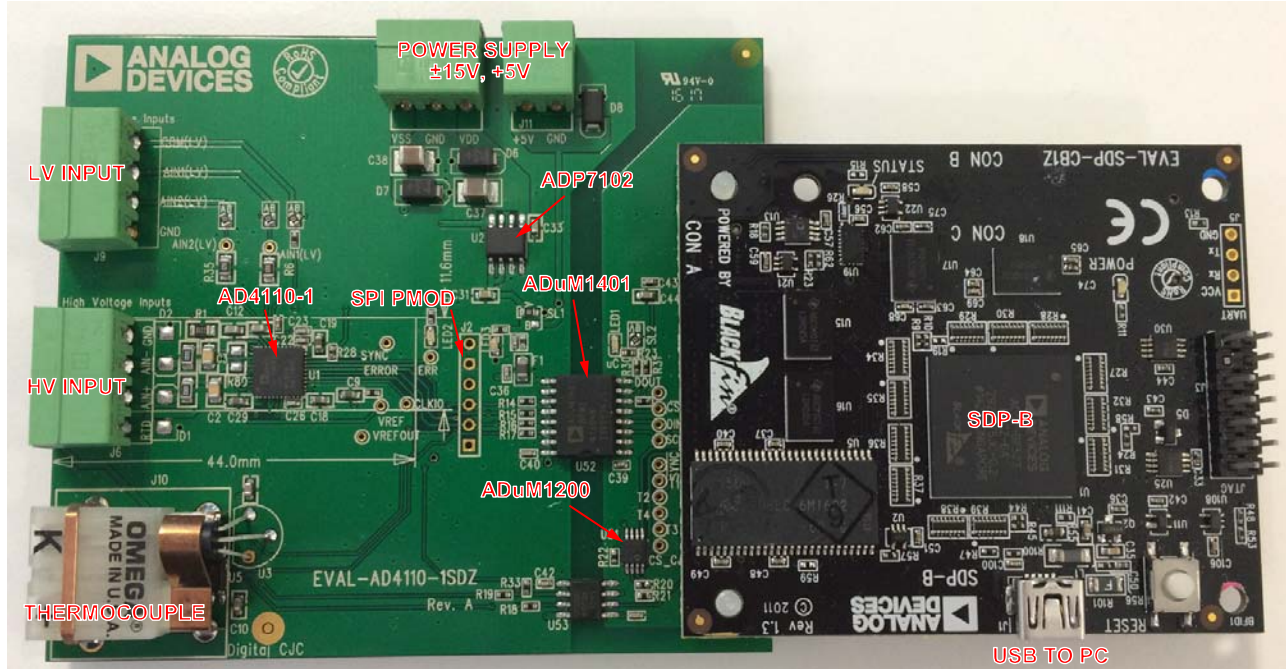

Figure 2. Hardware Configuration—Setting Up the EVAL-AD4110-1SDZ
The EVAL-AD4110-1SDZ evaluation board connects to the SDP-B controller board, which is the communication link between the PC and the evaluation board. Connect the EVAL-AD4110-1SDZ board to Connector A (CON A) on the SDP-B board, as shown in Figure 2.
A ± 15 V power supply is recommended and must be connected to J14, as shown in Figure 2.
4. Apply the external voltage ($\pm 12\text{ V}$ to $\pm 20\text{ V}$) to the power supply connector of the EVAL-AD4110-1SDZ board as shown in Figure 2.